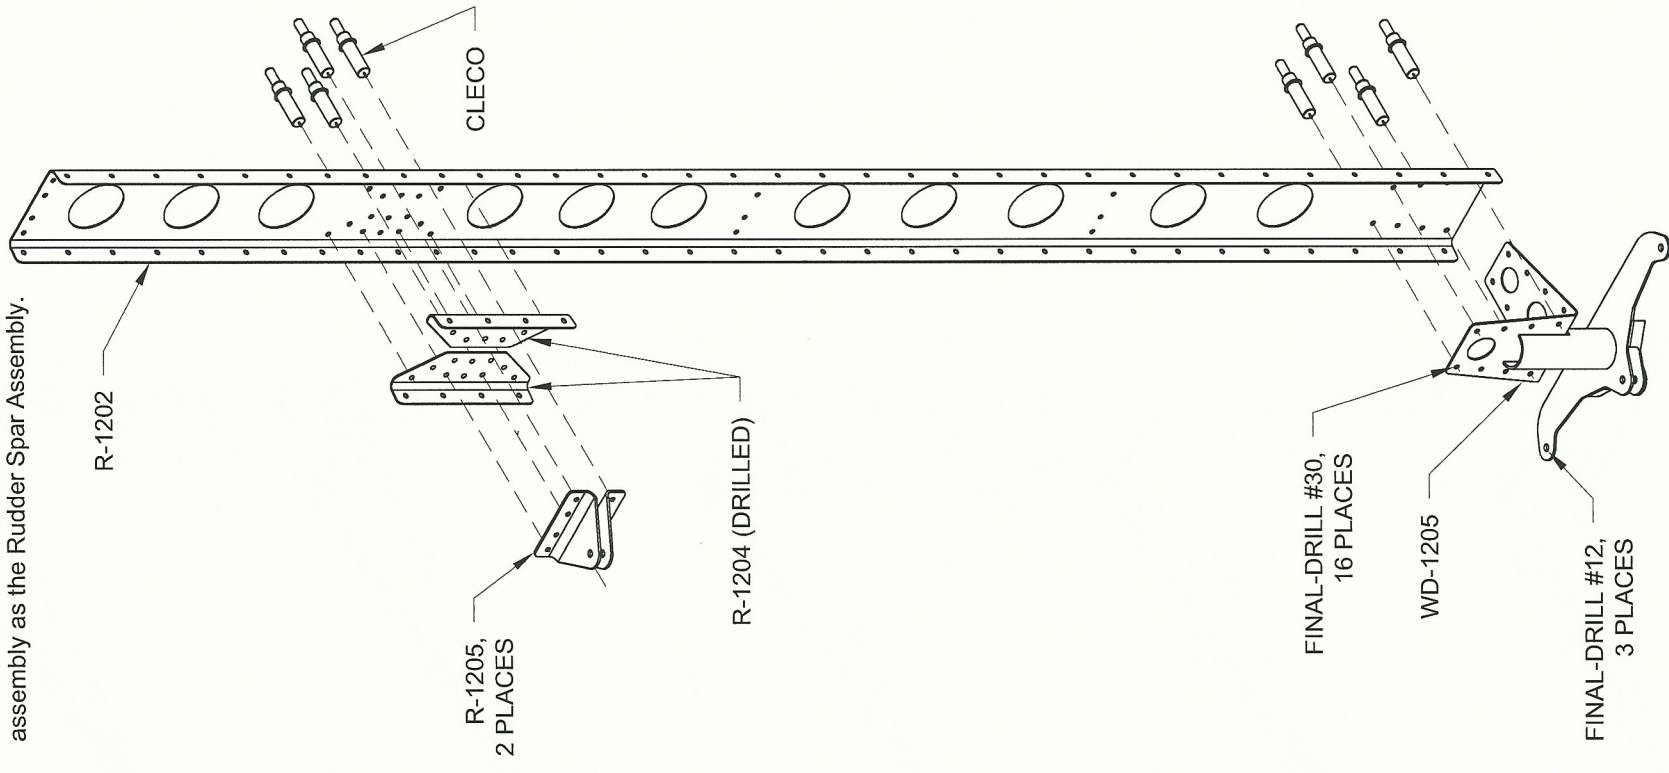

FIGURE 4:
- Step 9: Final-Drill the holes in the WD-1205 Rudder Horn as shown in Figure 4.
- Step 10: Cleco the R-1204 Spar Caps, the R-1205 Hinge Brackets and the WD-1205 Rudder Horn to the R-1202 Spar. Position clecos on the web of the spar as shown in Figure 4. Hereafter refer to this assembly as the Rudder Spar Assembly.